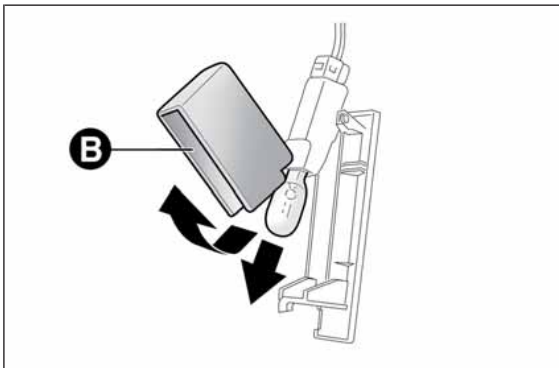

fig. 144
- open the protection B fig. 144 and replace the bulb;